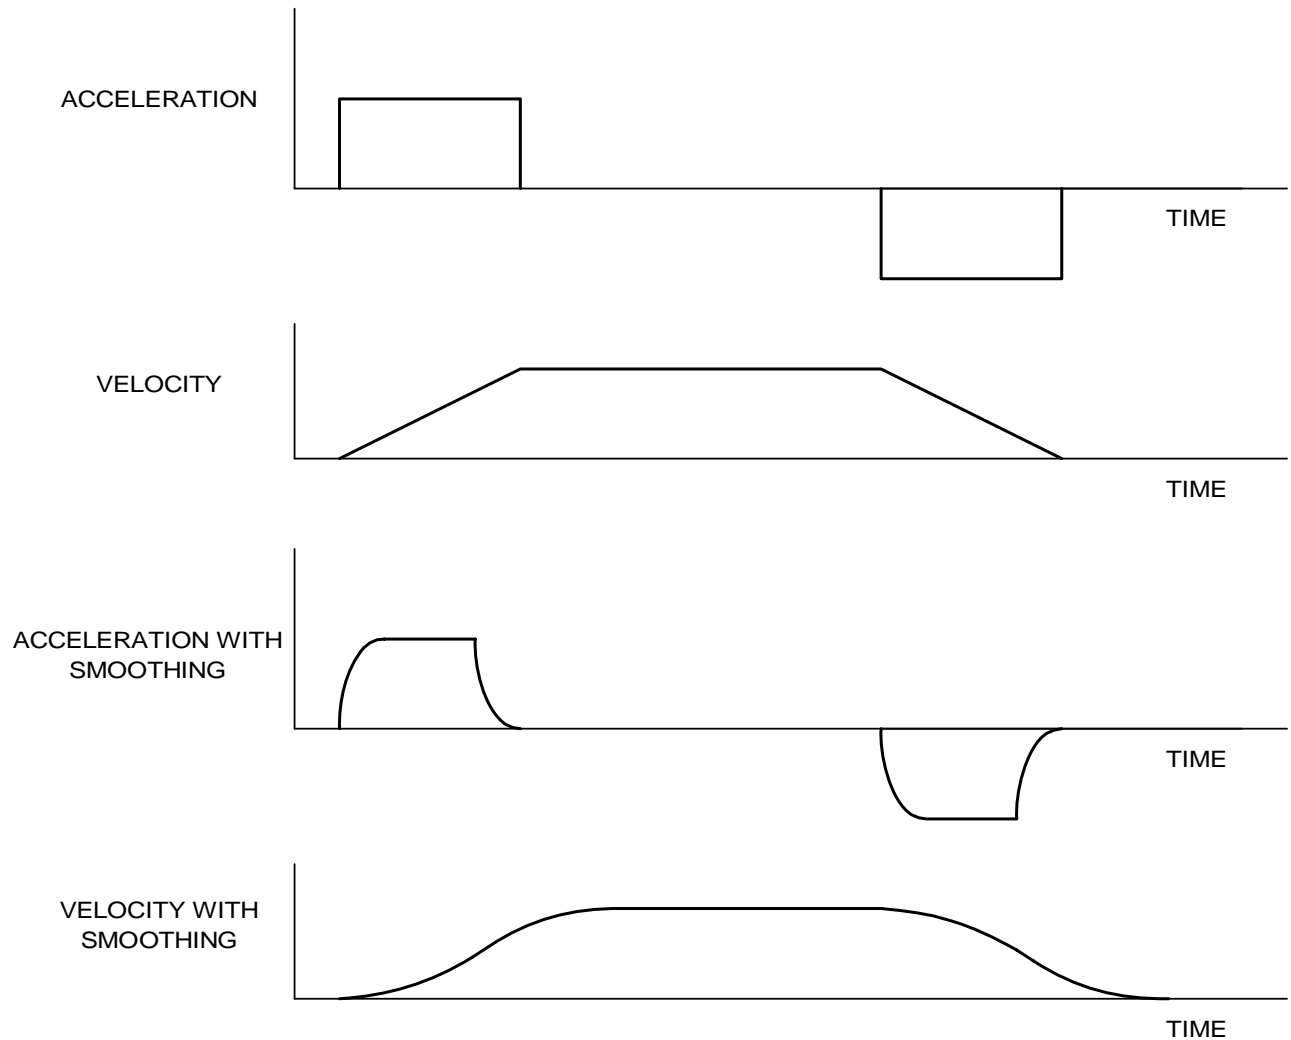

Figure 6.7 - Trapezoidal velocity and smooth velocity profiles
The following example illustrates the effect of smoothing. Fig. 6.7 shows the trapezoidal velocity profile and the modified acceleration and velocity.
The Find Edge (FE) instruction is useful for initializing the motor to a home switch. The home switch is connected to the Homing Input. When the Find Edge command and Begin is used, the motor will accelerate up to the slow speed and slew until a transition is detected on the Homing line. The motor will then decelerate to a stop. A high deceleration value must be input before the find edge command is issued for the motor to decelerate rapidly after sensing the home switch. The velocity profile generated is shown in Fig. 6.7.